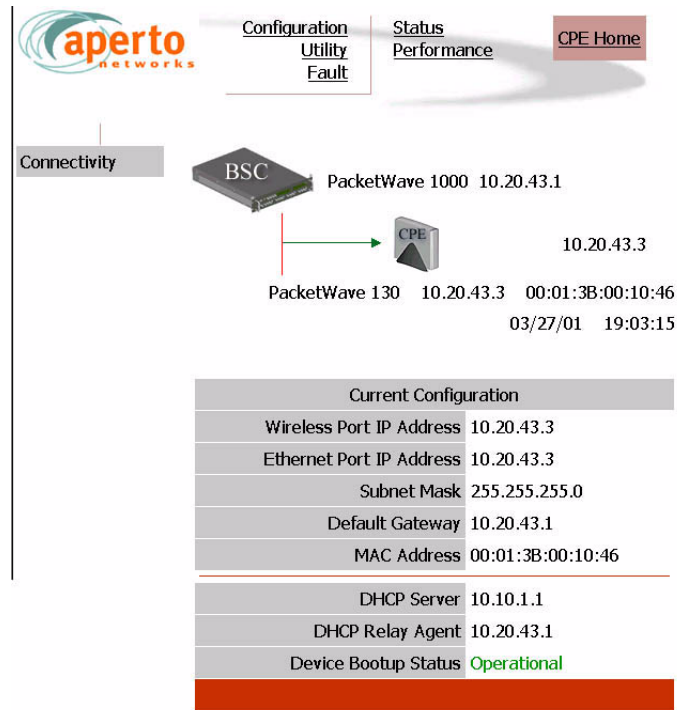

Figure 7-1 Web GUI Home Page
5. Wait for the Web interface home page to open, a shown in *Figure 7-1*.
As shown in *Figure 7-1*, the home page provides a graphical representation of base station-to-subscriber connectivity. The arrow pointing to the Indoor Unit icon indicates wireless channel status: green if good or red if down.